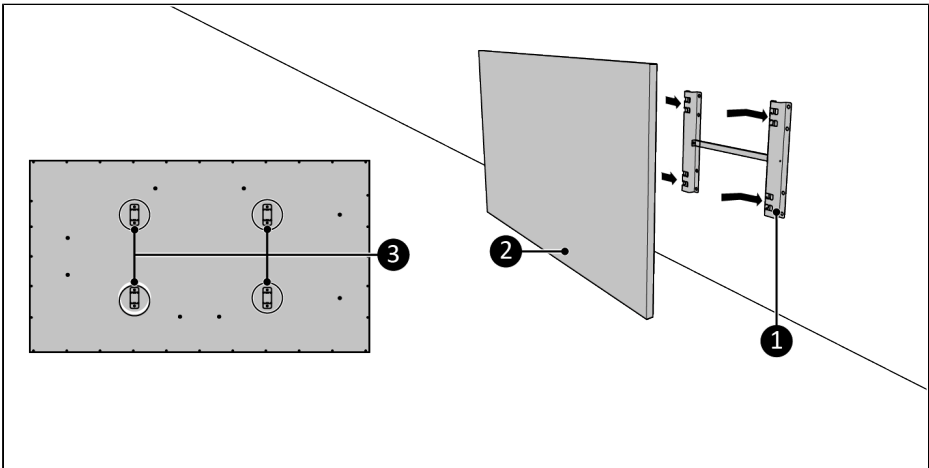

Figure 37.
5. Place the device brackets (Figure 37, pos. 3) over the wall bracket (Figure 37, pos. 1).
6. Slide the device (Figure 37, pos. 2) into the openings of the wall bracket (Figure 37, pos. 1).